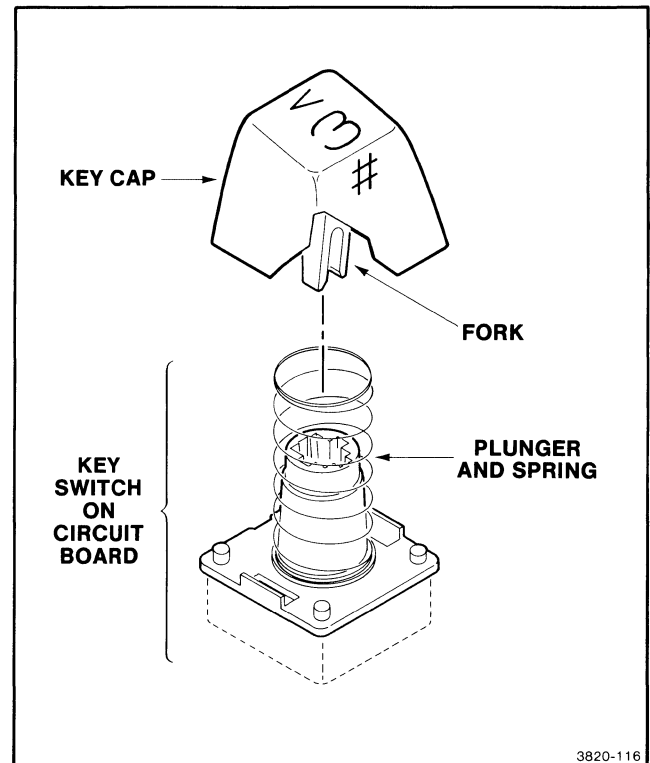

Figure 6-24. Installing Replacement Key Cap.
1. Position the key so that its label is pointing in the proper direction (not upside down or sideways). See Figure 6-24.